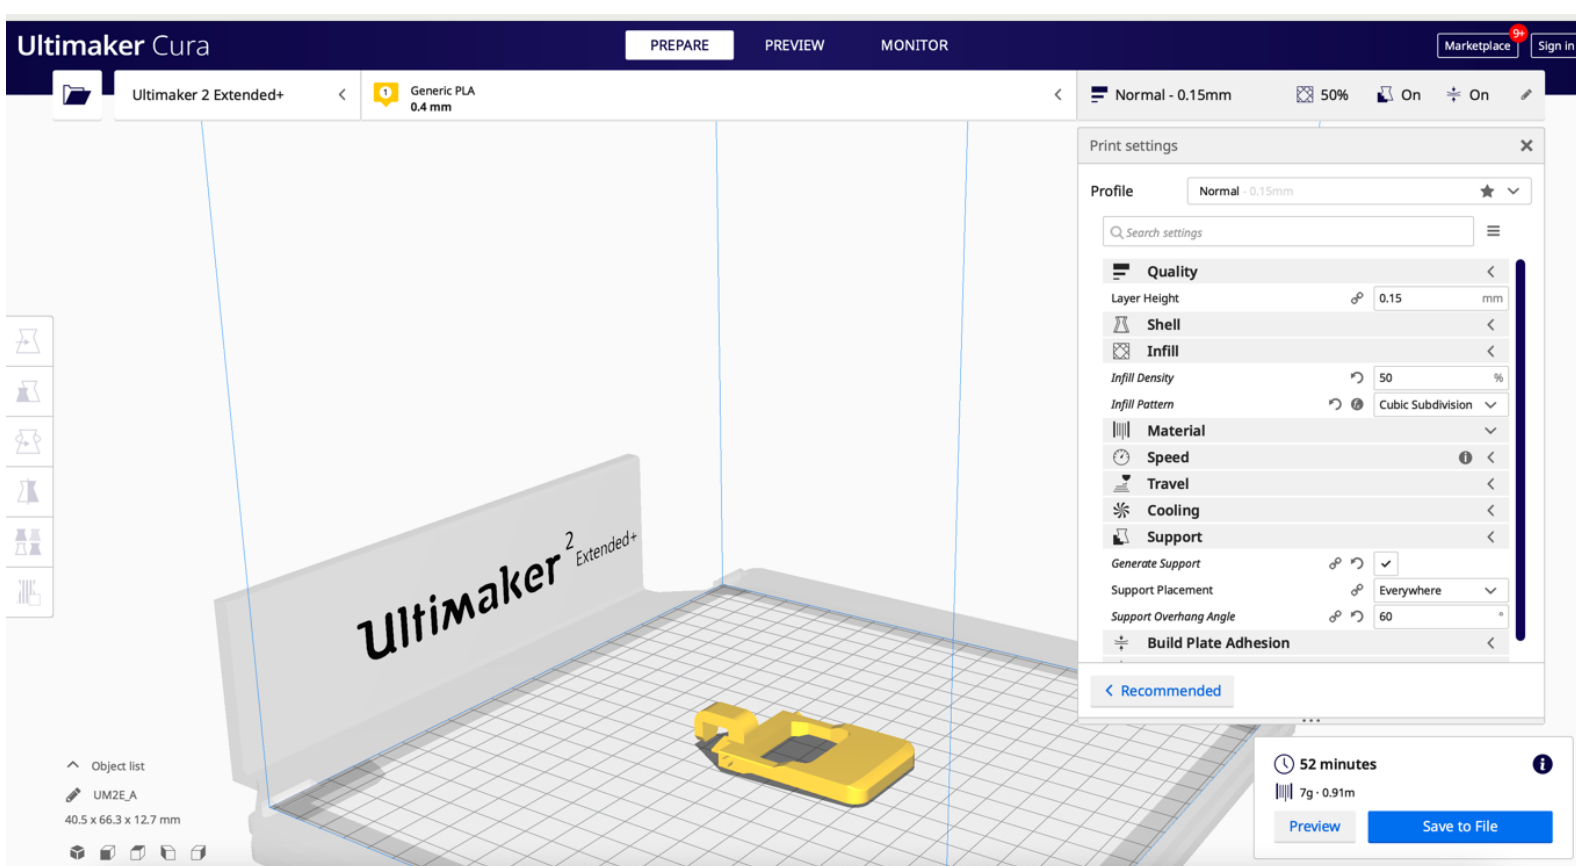

Figure 26 - Example of the use of slicing software in Ultimaker Cura.
2. Download the slicing software of your preference and install it in your computer. Depending on the printer you are using you will find different slicing software options that are compatible. We recommend Cura from Ultimaker [46], since it is free to use and compatible with several other printers. Figure 26 shows an example of what the screen for Cura looks like.
3. Once you have selected the printing settings and before exporting your file, verify the printing time and estimated material weight. You will use this information to test the quality of the print once it is ready. The example in Figure 26 shows an estimate of 7g of material and a printing time of 52 minutes.